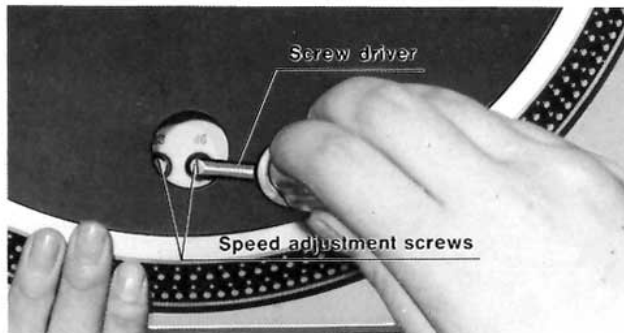

Fig. 17
② SPEED ADJUSTMENT (with speed adjustment screws) (See Fig. 17)